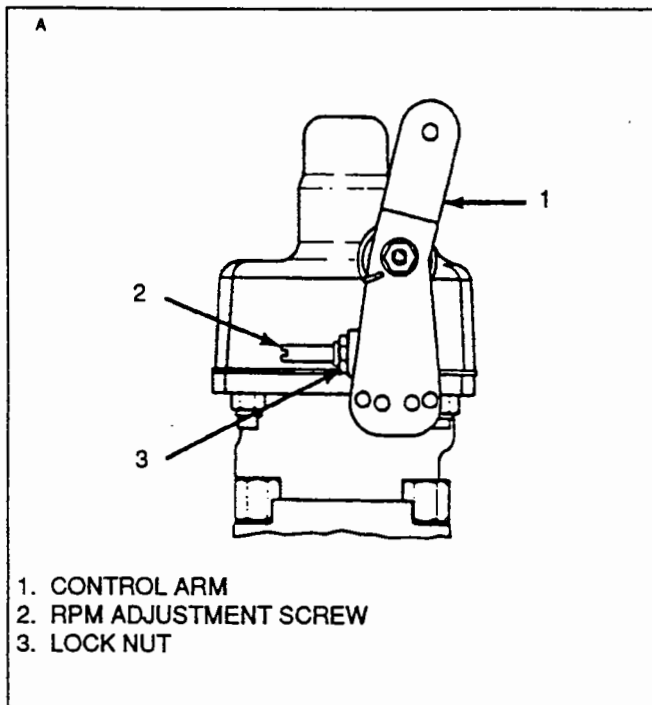

Figure 61-3. Propeller Governor
RIGGING AND ADJUSTMENT OF PROPELLER GOVERNOR. (Refer to Figure 61-3.)
- E. Ascertain that the governor control arm is adjusted to the proper angle on the control wheel (4) as shown in Figure 61-3.